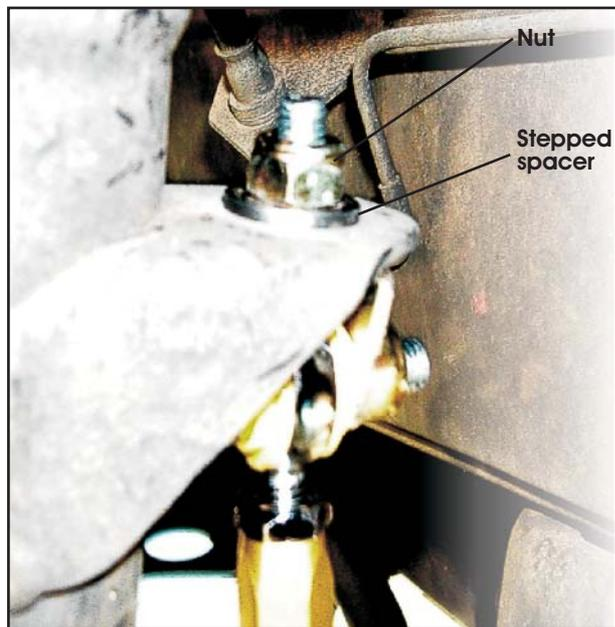

Fig2. KLC003 strut mount
6. Attach complete link assemblies to both struts using the stepped spacer on top of the strut bracket with the step facing down. Align the new bracket so that the sides are parallel with the car. Tighten using new nyloc nuts. Refer Fig. 2.